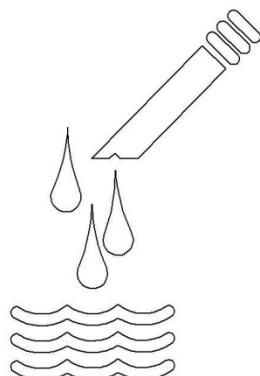

FIGURE 3
2. Move the vacuum control switch to the **Vacuum Wet** setting. See FIGURE 3 and on vacuum head.